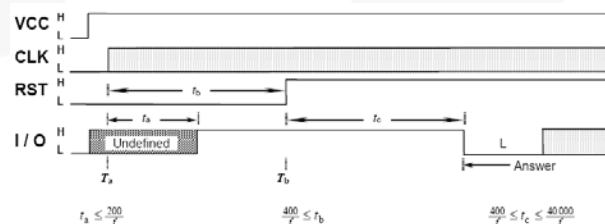

Figure 14. Activation Timing (ISO 7816-3 2006)
To ensure the SIM card electrical circuits do not activate before the contacts of the SIM card are mechanically connected, ISO7816-3 2006 mandates the activation sequence of events described in Figure 14. The FXLA2203 provides full transparency to the activation timing between host and SIM card.
5. Begin activation timing (see Figure 14).